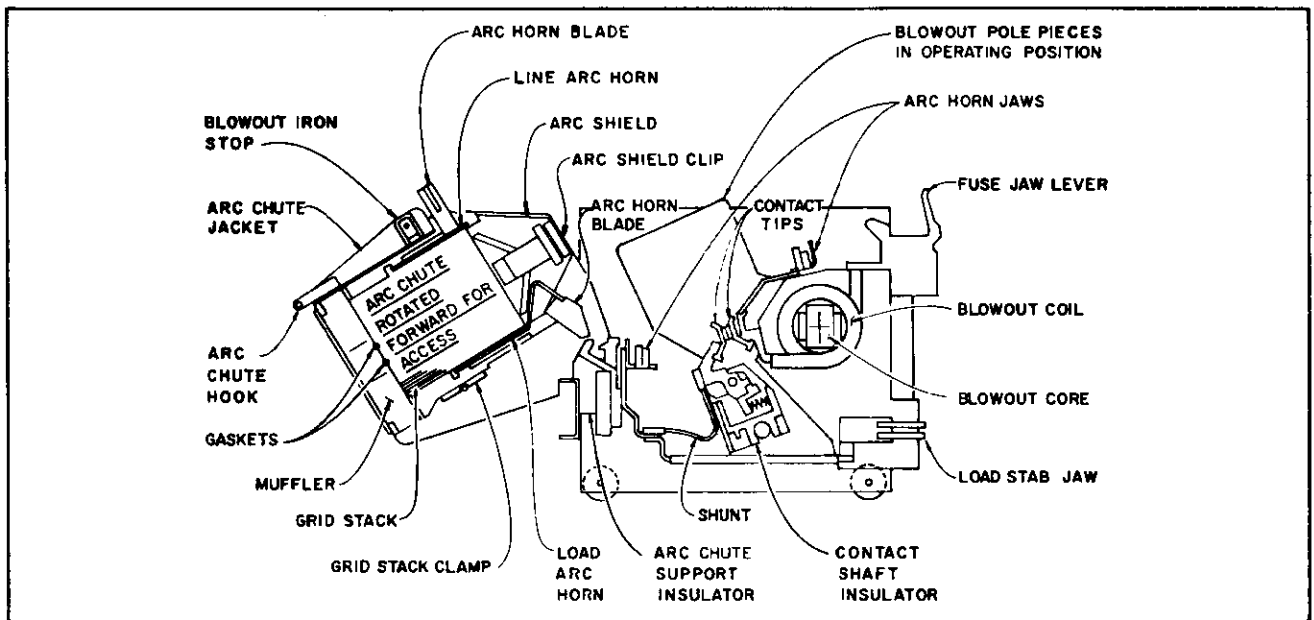

Figure 4
For visual inspection of the contacts and shunts the arc chutes may be rotated forward out of the normal operating position as shown in Figure 4.
Arc chutes can be removed completely by first rotating them forward toward the front, as shown in Figure 4, and then lifting upward until the horizontal pivot bolt comes free. It is not necessary to loosen hardware to remove the arc chutes.
1. Refer to Figure 4 and loosen the grid stack clamping screw.
13. Return arc chutes to contactor by dropping pivot bolt into the slot of molded arc chute support as shown in Figure 4 and then rotate the arc chute into operating position as shown in Figure 1. When in the operating position arc horn blades should make at least 1/4" engagement with their respective arc horn jaws. In the event blowout pole pieces are not in their operating position, projections on the arc chute flanges will strike the pole pieces preventing the arc chute from being rotated into operating position. When the contactor is mounted in an "Ampgard" starter the arc chute will prevent the enclosure door and isolating switch from being closed if the blowout pole pieces are not in the operating position.